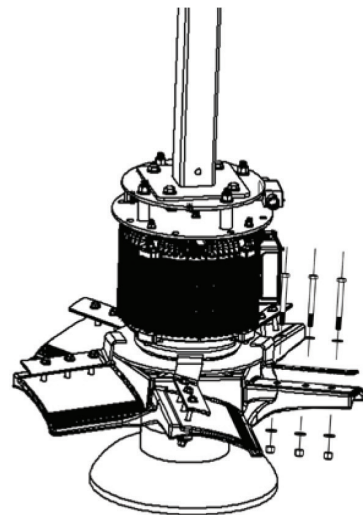

Fig.18
1. Clamp a blade between blade topper and hub using 3/8" bolts, washers and nylocks [Fig.18].